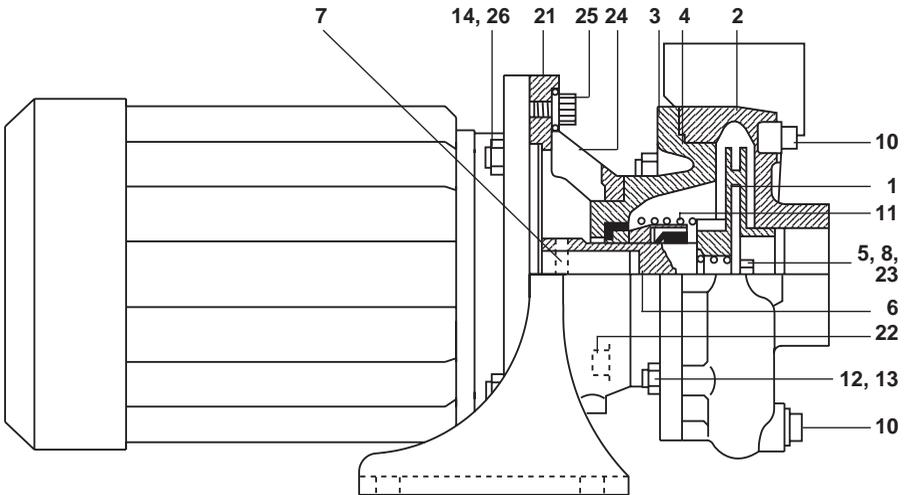

Fig. 5 Series 'S' pump
6.3 Dismantling for replacements - Series 'S' centrifugal pump (refer to Figure 5):
- To dismantle, separate the volute (2) from the seal plate (3), unscrew the impeller bolt (23) (RH thread), remove the impeller washer (5) and pull off the impeller (1).